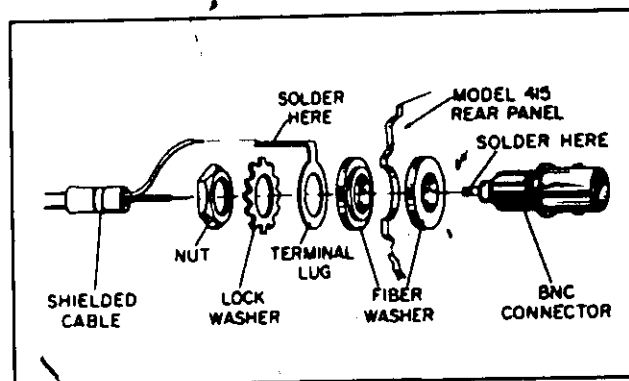

Figure I-2. Connector Assembly
- a. Refer to Figure I-2 which shows the proper assembly of the rear panel connector and cable assembly.